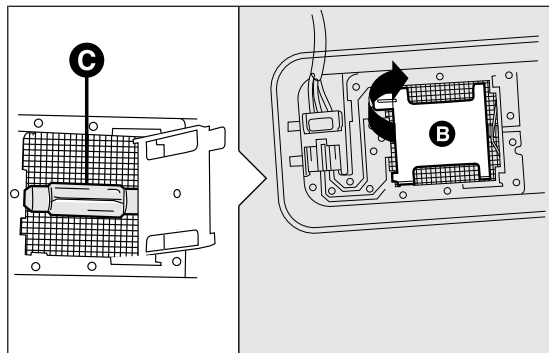

fig. 153
- ☐ open the lid B fig. 153 as shown;
- ☐ remove bulb C fig. 153 by releasing it from the side contacts, then insert the new bulb and make sure it is correctly clamped between these contacts;